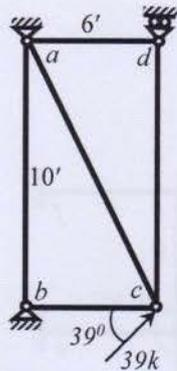

Fig. 7
7. For the 2D truss  $abcd$  loaded as shown in Fig. 7